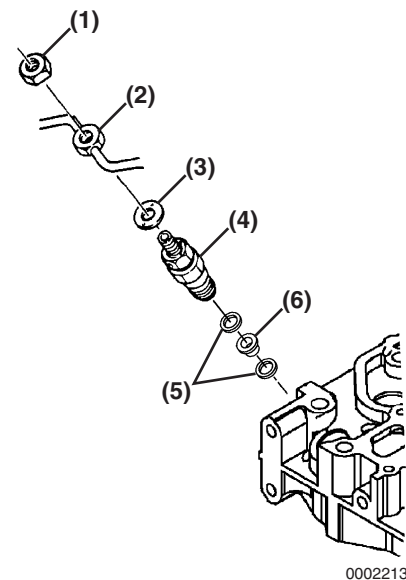

Figure 7-36
- Insert the nozzle gaskets (**Figure 7-36, (5)**) and nozzle protector (**Figure 7-36, (6)**) in the cylinder head.
- Reinstall the fuel injector (**Figure 7-36, (4)**) in the cylinder head and tighten to specification.
- Reinstall new copper washers (**Figure 7-36, (3)**), high-pressure and return fuel lines (**Figure 7-36, (2)**). See *Installation of High-Pressure Fuel Injection Lines* on page 7-12 and *Installation of Fuel Return Line* on page 7-13. Tighten fuel line nuts (**Figure 7-36, (1)**) to specifications.